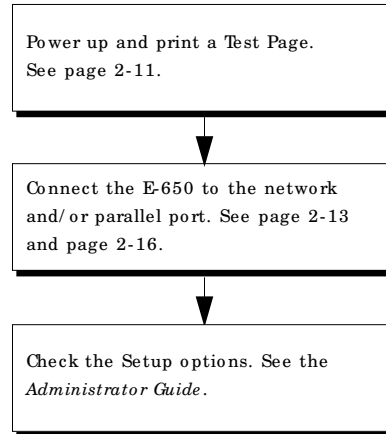

FIGURE 4-15 E-650 connection verification steps
7. **Before you leave the customer site, verify E-650 operation (see Figure 4-15 on page 4-25).**